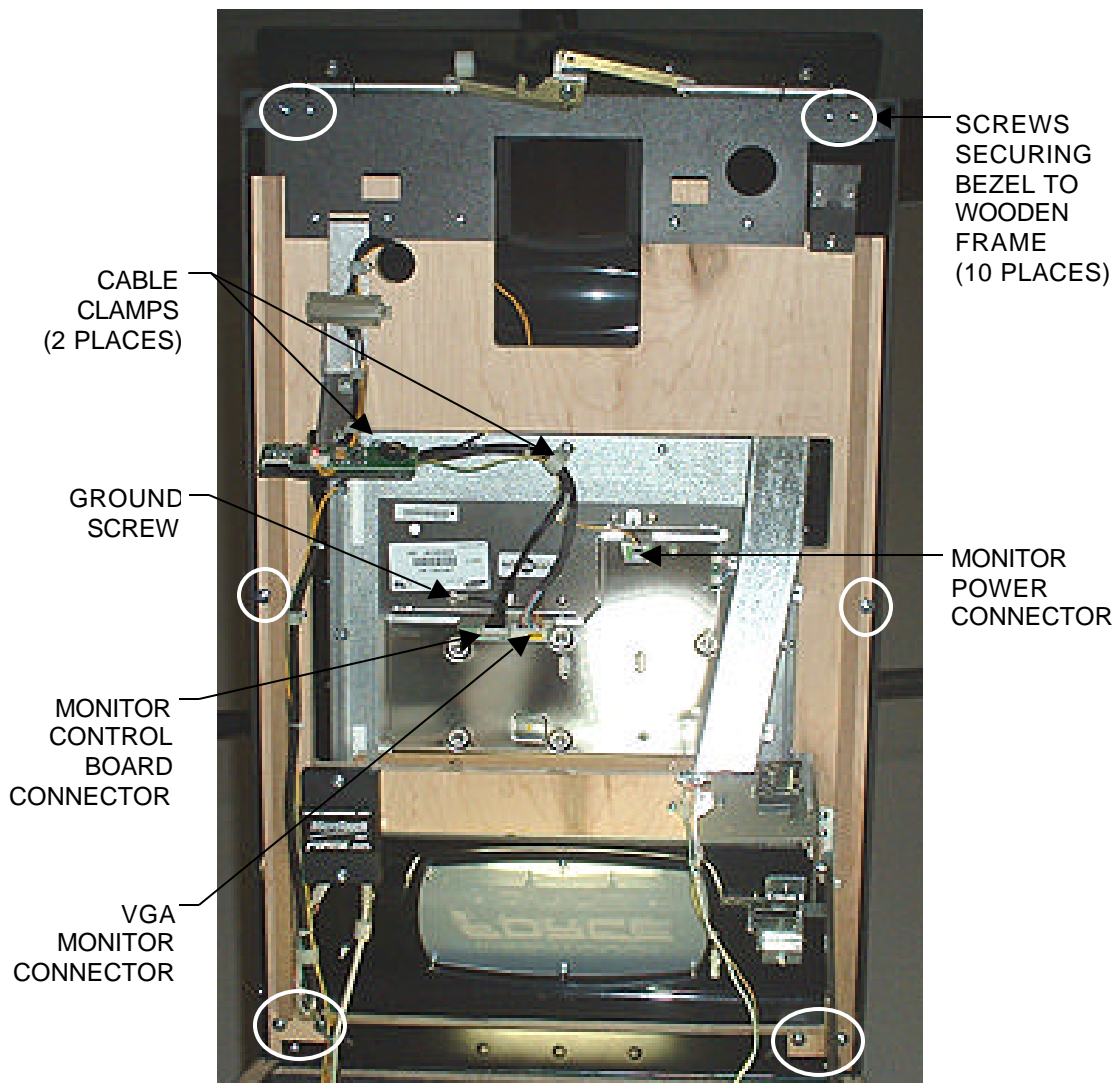

FIGURE 1 - UNDERSIDE OF BEZEL
3. Disconnect the VGA monitor connector and ground screw, the monitor control board connector, and the monitor power connector and also remove the cables from the 2 clamps attached to the monitor. See Figure 1.
5. Remove the 10 screws securing the plastic bezel to the wooden frame (see Figure 1) and carefully remove the bezel from the game. Be careful not to damage the bezel with the coin cup during removal. NOTE: Keep track of all hardware removed in the touchscreen replacement process.
4. Carefully replace the plastic bezel assembly in the game, making sure the coin cup protrudes into the lower cutout and no wires are pinched, then secure it to the wooden frame with the 10 screws (see Figure 1).
6. Reconnect the VGA monitor connector and ground screw (do not overtighten), the monitor control board connector, and the monitor power connector (see Figure 1) and replace the cables in the 2 clamps attached to the monitor.